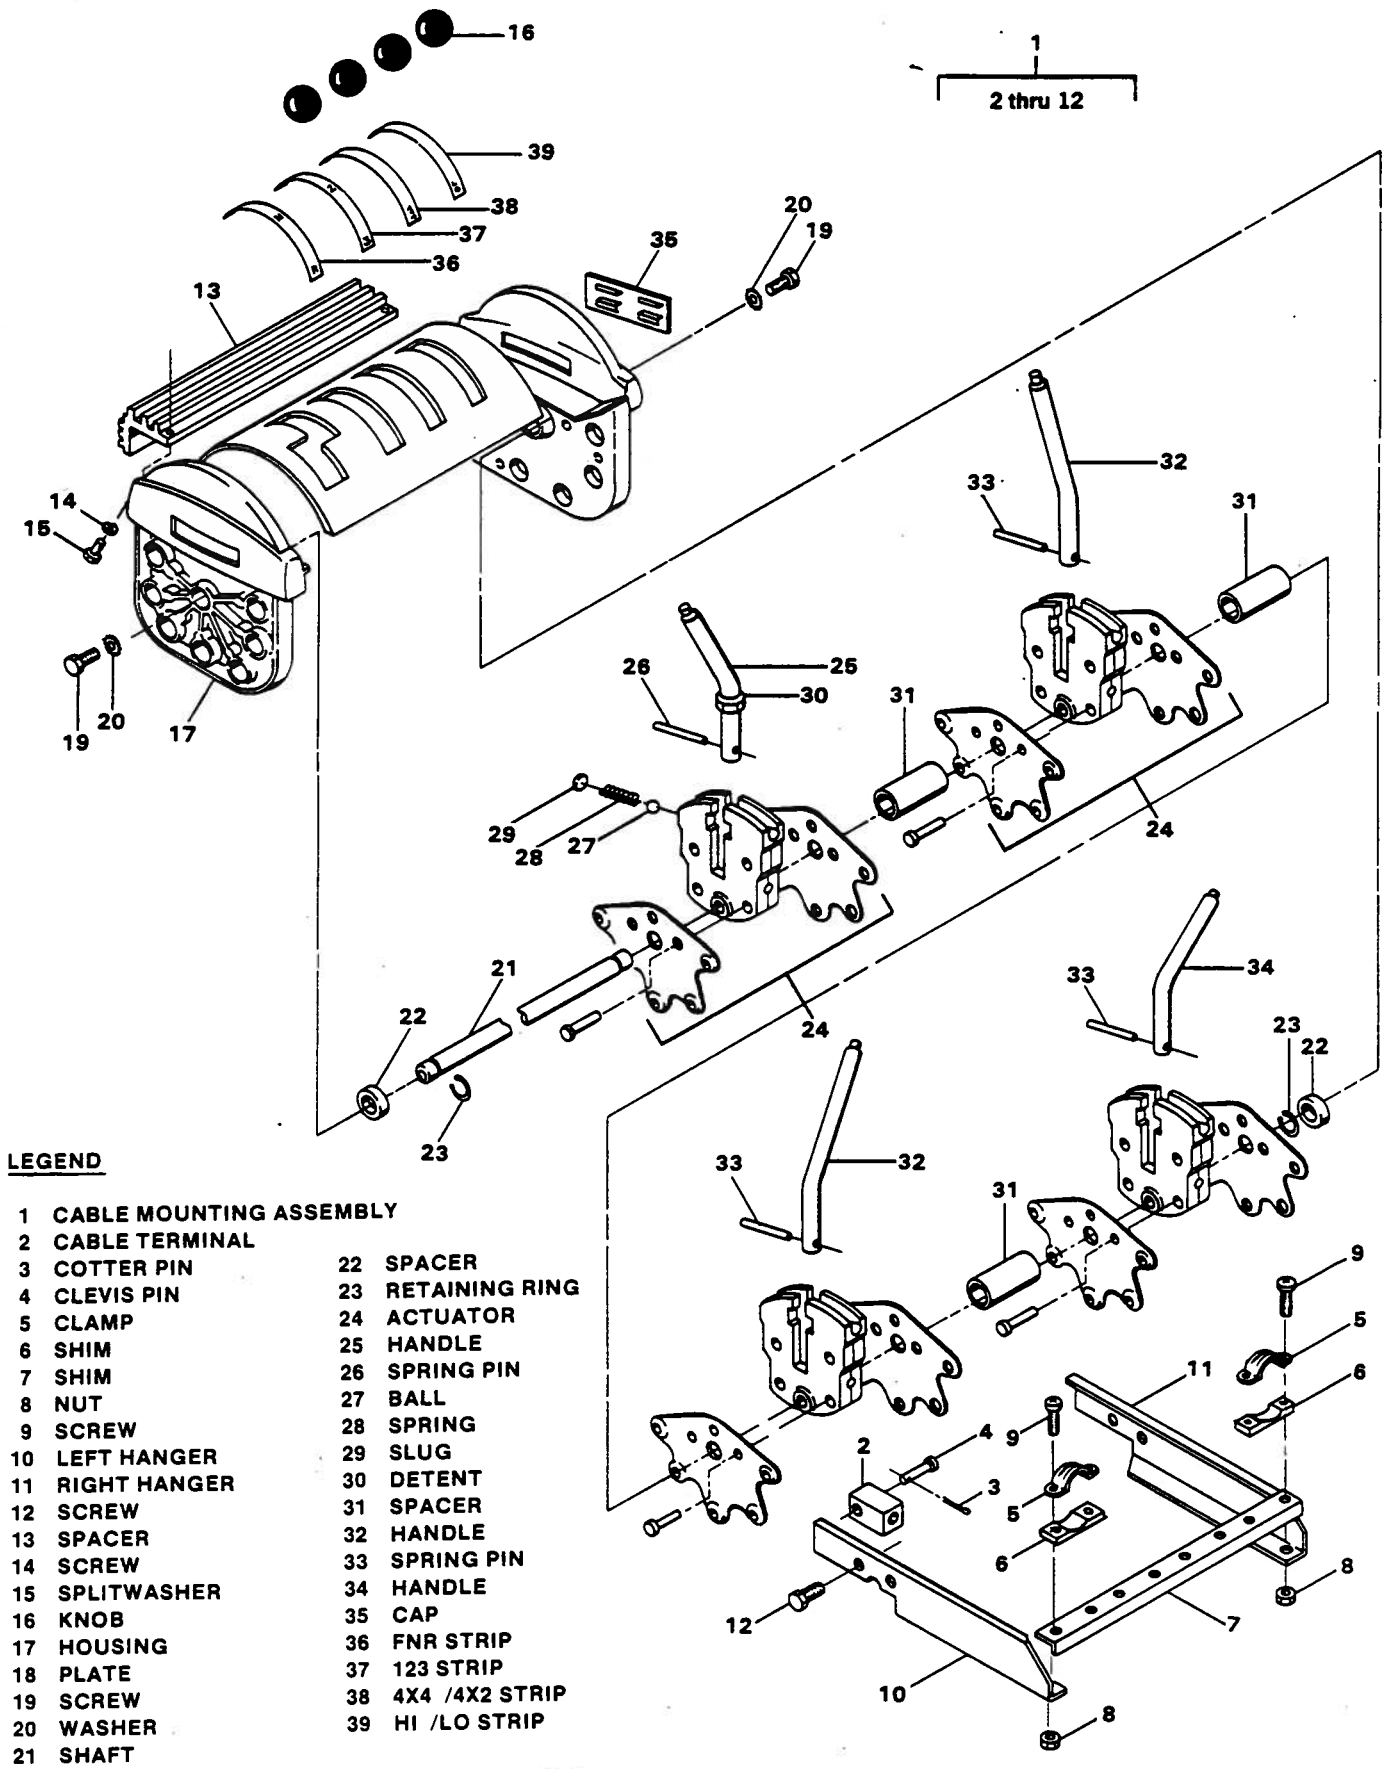

Figure 5-51. Transmission Shifter Assembly
c. Remove cotter pins (3, figure 5-51) securing clevis pins (4) to cable terminals (2). Remove clevis pins (4).
d. Remove four cable terminals (2) from control cables.
e. Remove nuts (8), screws (9), clamps (5) and shims (6) securing cables (not shown). Remove shim (7) from left hand hanger (10) and right hand hanger (11).
5-68. DISASSEMBLY. (See figure 5-51.)
a. Remove screws (12, figure 5-51), left hand hanger (10) and right hand hanger (11).
b. Remove screws (14), splitwashers (15), and spacers (13).
c. Remove knobs (16).
d. Remove screws (19) and washers (20), both ends. Remove housing (17) and plate (18).
e. Remove spacers (22), and retaining rings (23), both sides.
f. Remove actuators (24) and spacers (31) from shaft (21).
g. Remove spring pins (26 and 33) and handles (25, 32, and 34). Remove ball (27), spring (28), and slug (29), if necessary.